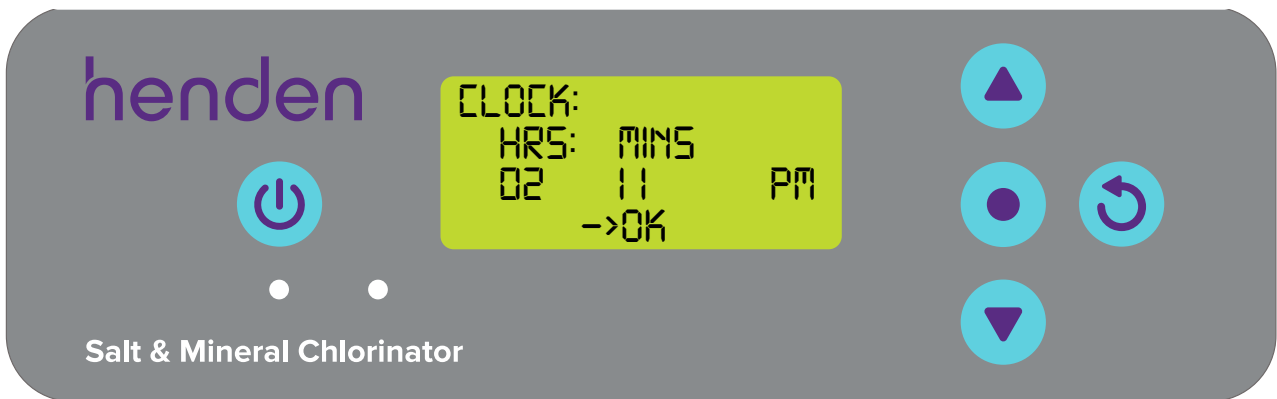

Figure 6.4
- The display will then request clock confirmation (refer Figure 6.4)